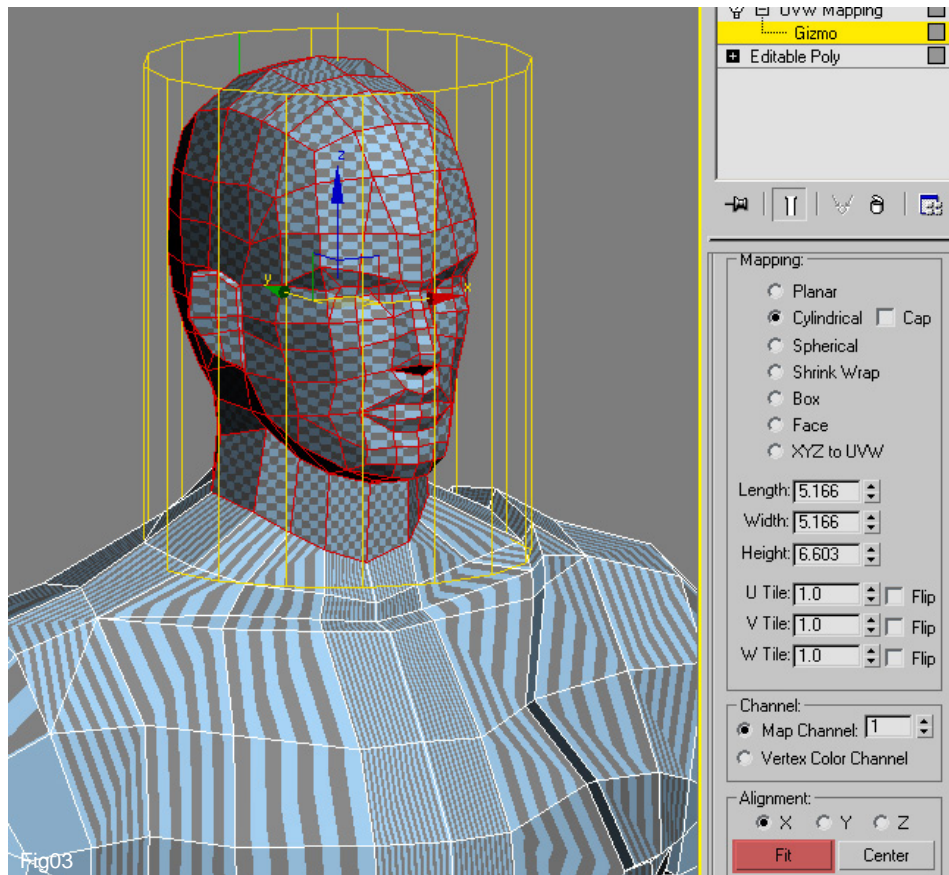

Fig03
3. The first step to correcting this is to apply the UVW Mapping modifier which you can find in the modifier list. Before doing this select all the poly's that make up the head and neck area as seen in Fig 03. Now apply the mapping modifier which you can see in the upper right and click on the little + symbol and highlight Gizmo. Now select the Cylindrical radio button just below and click on the Fit tab as highlighted in red. You should now see the yellow cylinder fit neatly around the selected poly's with a green line representing the seam which you want to align with the edge along the back of the head. If it does not appear in the correct position simply use the rotate tool on the main toolbar to move it. Hopefully you should also see a much more consistent checker pattern too.